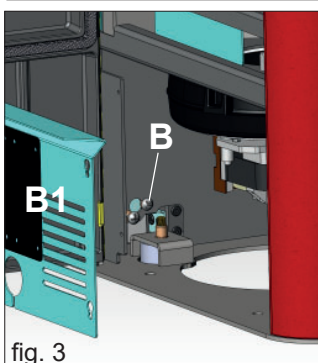

fig. 3
- Open the door and remove the galvanised panel (B1 - fig. 3)
- Loosen the screw on the lower/front part of the right and left sides (B -fig. 3).